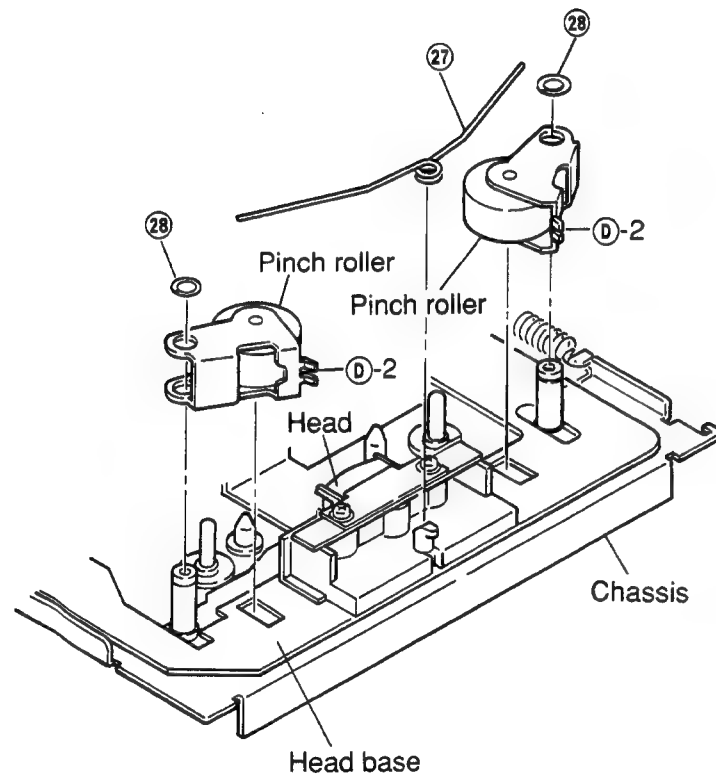

Figure 20
- (1) Remove pinch roller spring ②⑦ as shown in Figure 20.
- (2) Remove M3.1 two lock washers ②⑧ and remove the pinch roller as shown in Figure 20.
- (3) Mount the pinch rollers following the removal steps in the reverse order. Apply insulation coating to the position ①-2 of the pinch roller as shown in Figure 20.